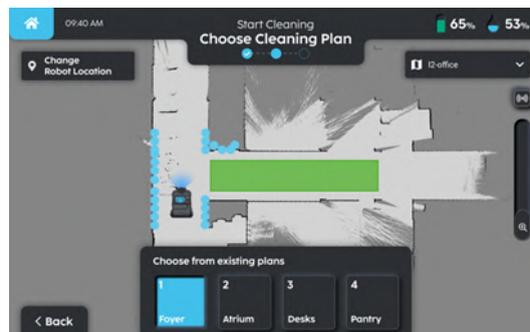

FIGURE 8-10
1. To determine that the machine is localised properly, the LiDAR points (blue colour) will overlap the walls on the map (black lines) (**Fig. 8-10**).